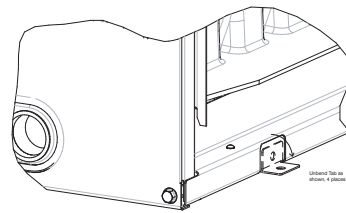

Fig. 6 - Horizontal Left Installation
1. Unbend the 4 tabs at the right side of the casing. (See Fig. 6.)